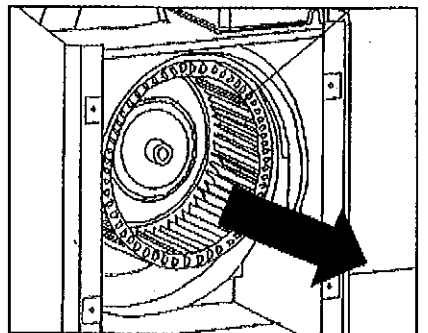

Fig. 16
- **(Fig. 16)** Remove fan wheel carefully.